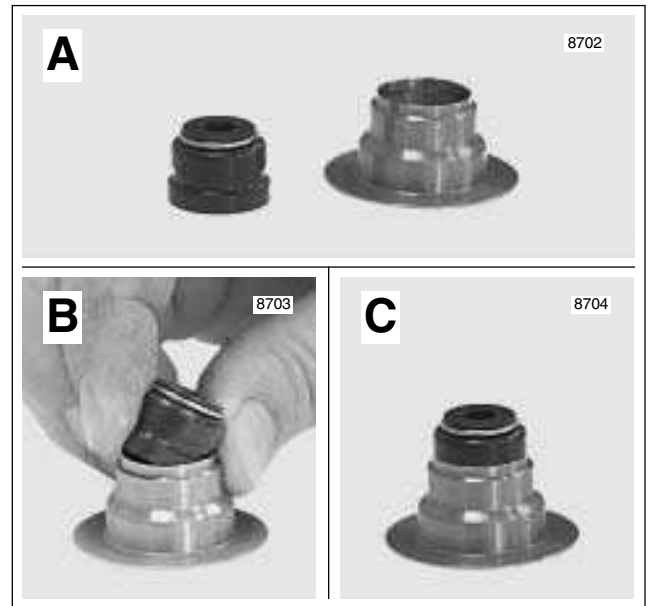

Figure 3-82. Valve Stem Seal/Spring Seat Assembly
9. Obtain **new** valve stem seal and spring seat. Assemble parts as shown in Figure 3-82.